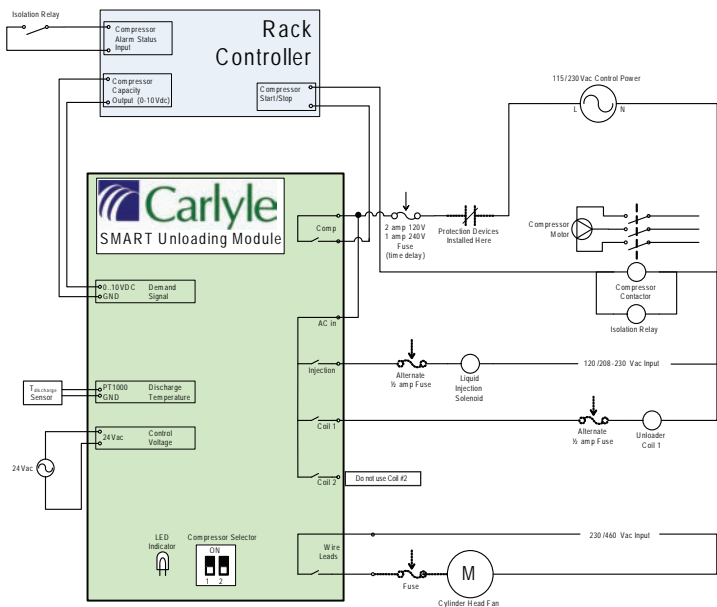

Fig. 38 — Electrical Schematic, Compressors with 1 Unloading Head or PWM Valve
- The PWM valve solenoid coil should wire back to the Smart Control, Coil #1 position as shown in electrical schematic Fig. 38.